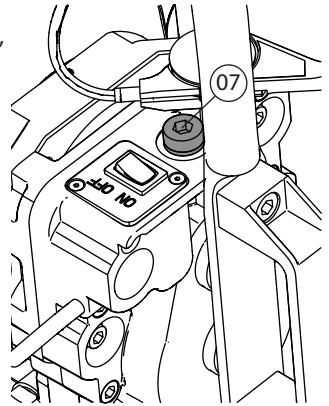

FIG. 17
After the first 10 operating hours, proceed with sump oil change, as follows: (Ref. to Figs. 17 and 17a)
13.1.1) Topping up oil (Ref. to Figs. 17 and 17a)